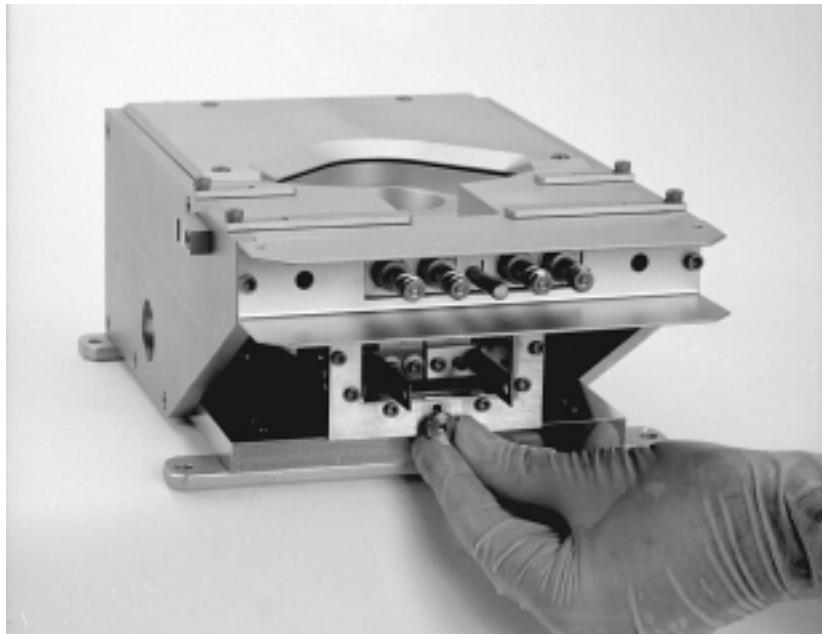

Figure 6-3. Removing the emitter assembly
Step 3: Remove the emitter assembly, if you have not already done so. First remove the knurled nut that secures the emitter to the source baseplate, as shown in Figure 6-3. Then remove the emitter.